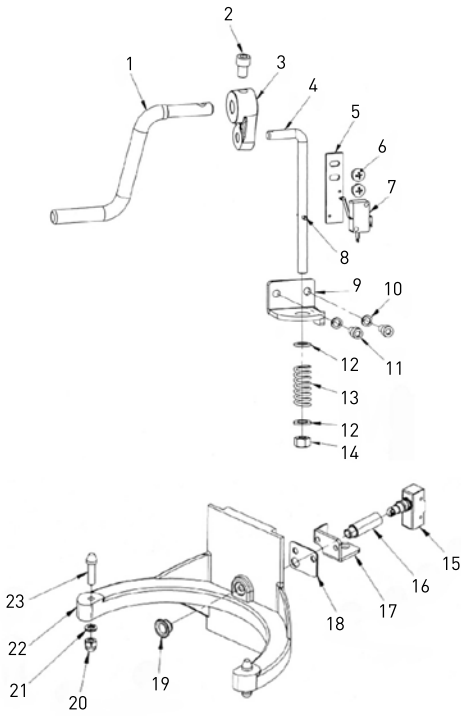

Figure 3: Bowl lifting assembly of the machine
- Bowl lifting assembly (Figure 3);
### Machine part list of Figure 3